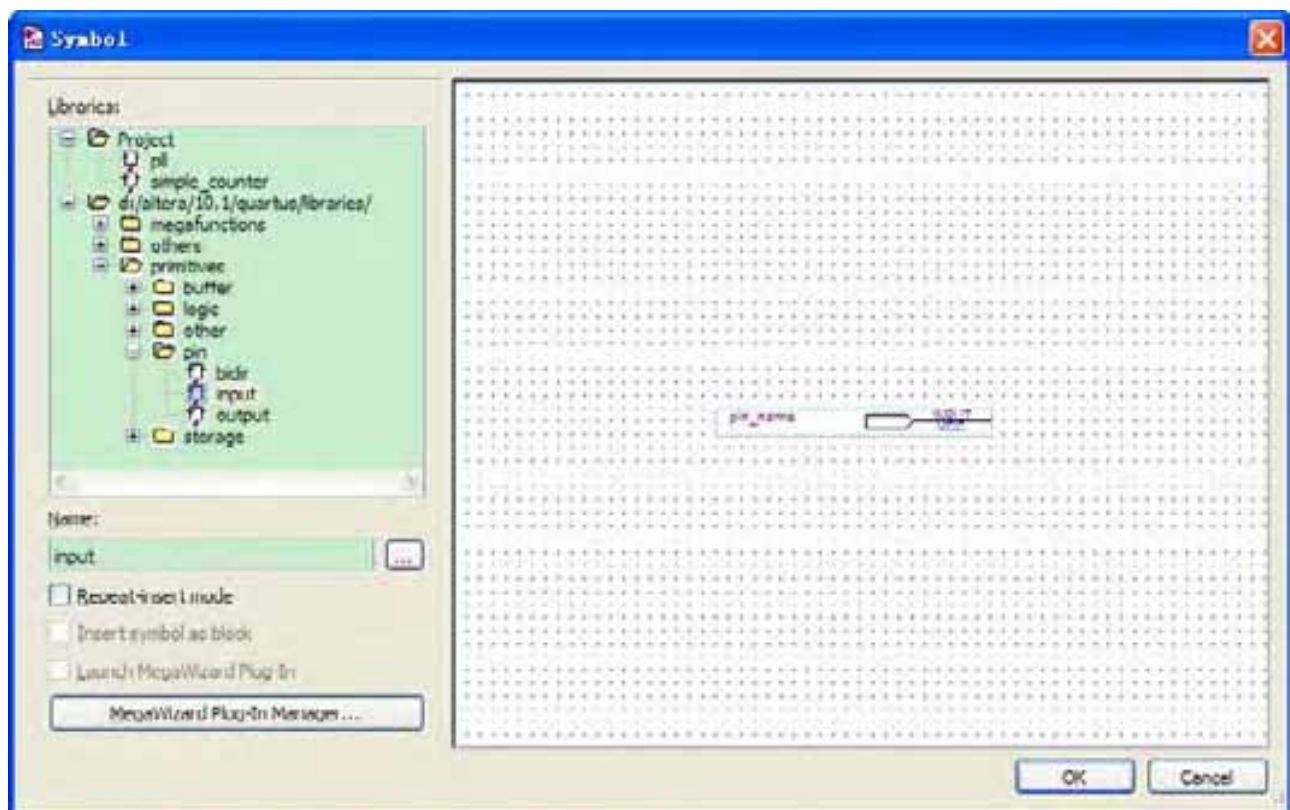

Figure 6-28 Input pin symbol
2. Under Libraries, select quartus/libraries > primitives > pin > input. See Figure 6-28